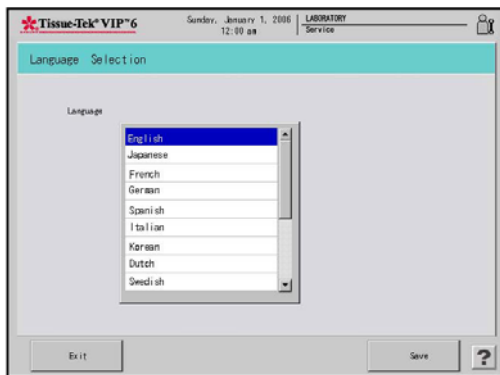

Figure 3-U
- The Language Selection screen displays (Figure 3-U).